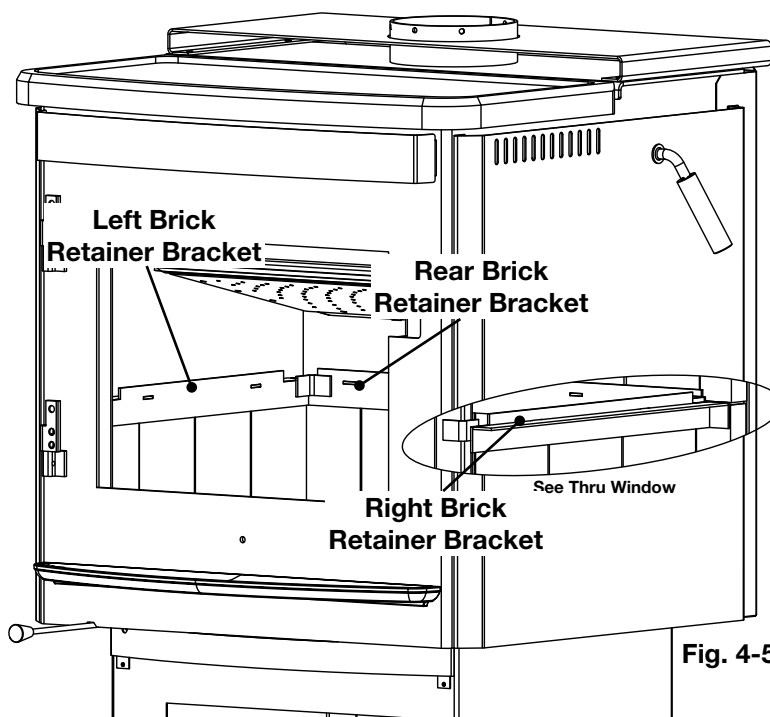

Fig. 4-5
- B.** Install the brick retainer brackets on the right side, then the rear, and finally the left side of the firebox (**Fig. 4-5**). The right and left retainer wedge is located behind the tabs welded to the firebox.